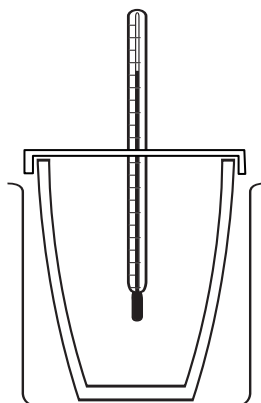

Figure 8.1
To measure enthalpy changes you are going to use a polystyrene cup as a calorimeter (Fig. 8.1). A calorimeter is any container that is used to measure energy changes from chemical reactions.
- 1 The simple apparatus in Fig. 8.1 is very effective in minimising energy losses and this is important if we are going to measure accurately any energy changes arising from reactions.
Glass beaker large enough to stand the polystyrene cup in but not much larger (see Fig. 8.1 on the Student Sheet)